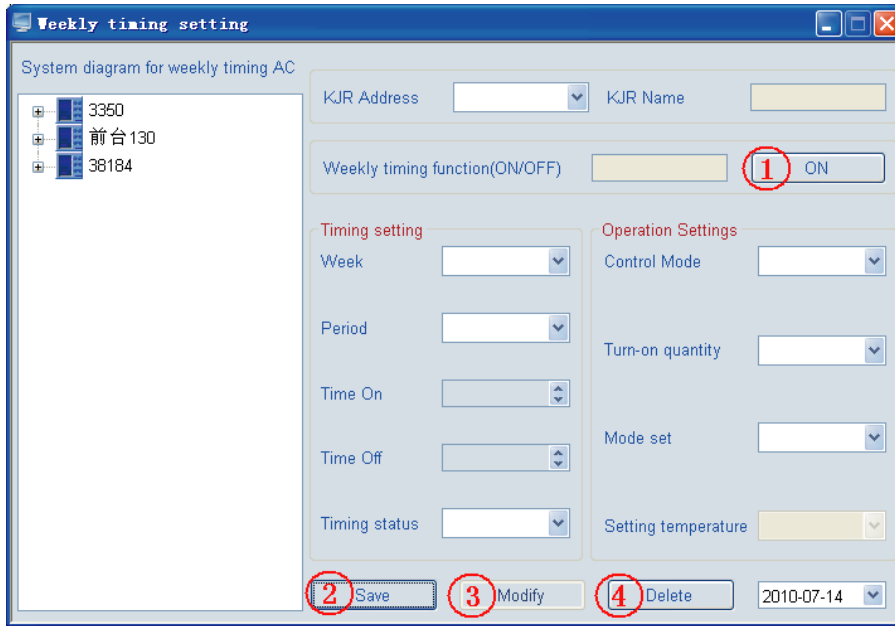
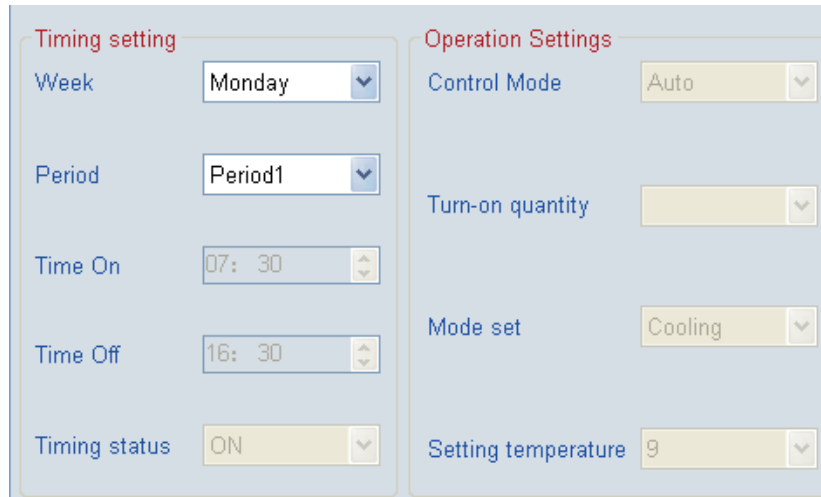

Fig.4-29
Fig.4-33
①Click “Weekly timing set” a window as Fig. 4-29 would pop up——finish the weekly schedule management setting, each wired controller represents a refrigeration system; and the existing wired controller is a wired controller has already been configured in the system.
(1) Gray color represents Weekly Timing without set in this wired controller.
(2) Light green represents at less one Weekly Timing schedule has been set in this wired controller, without schedule in activating.
(3) Blue color represents at less one Weekly Timing schedule has been set in this wired controller as well as at less one of this schedule in activating.
- e. Save (See the ② key in the Fig.4-29) —— Save the current settings or the modified settings.
f. Modify(See the ③ key in the Fig.4-29) ——Press this key the parameter of selected period become changeable, and then click “Save” . Press the key again, all parameters in this period become unchangeable. See Fig. 4-33.